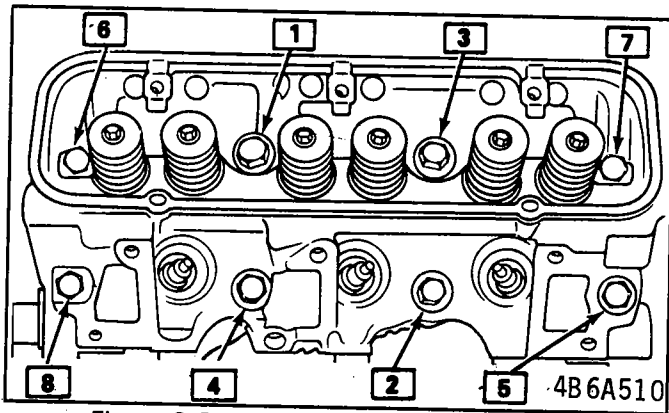

Figure 9 Cylinder Head Torque Sequence
6. Torque cylinder head bolts to 34 N·m (25 lbs. ft.) per sequence shown in Figure 9.